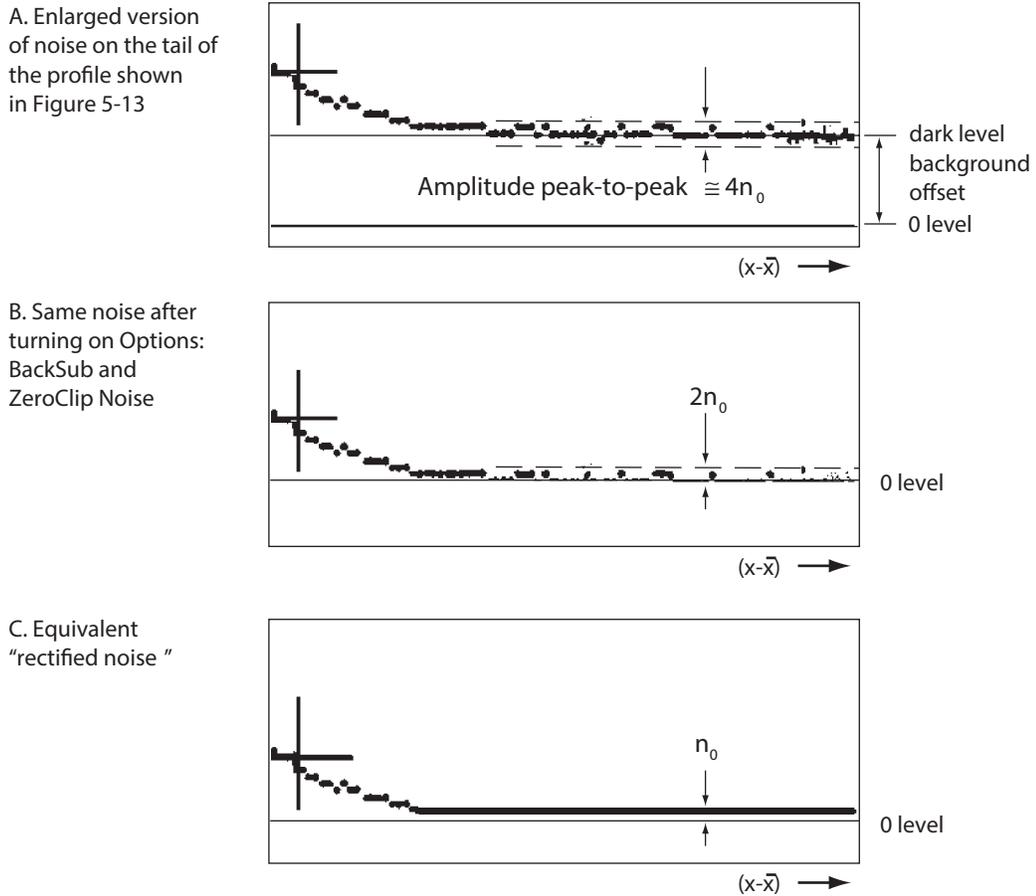

Figure 5-13. Derivation of the Equivalent “Rectified “noise”  $n_0$
The effect of having this option On is shown in Figure 5-13 (p. 5-39). With background being subtracted, when in the integration a negative going spike is encountered, its amplitude is set equal to zero, while positive spikes are untouched and included in the calculation as found. In effect, the peak-to-peak noise on the wings of the signal is rectified and reduced by 1/2, to give the “equivalent rectified noise” level  $n_0$  of the model, yielding Equation (38).